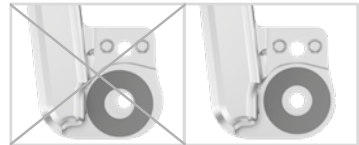

fig. 7
- 2 Apply spray adhesive on one side of the first sliding washer and adhere it to the cover plate (fig. 7).